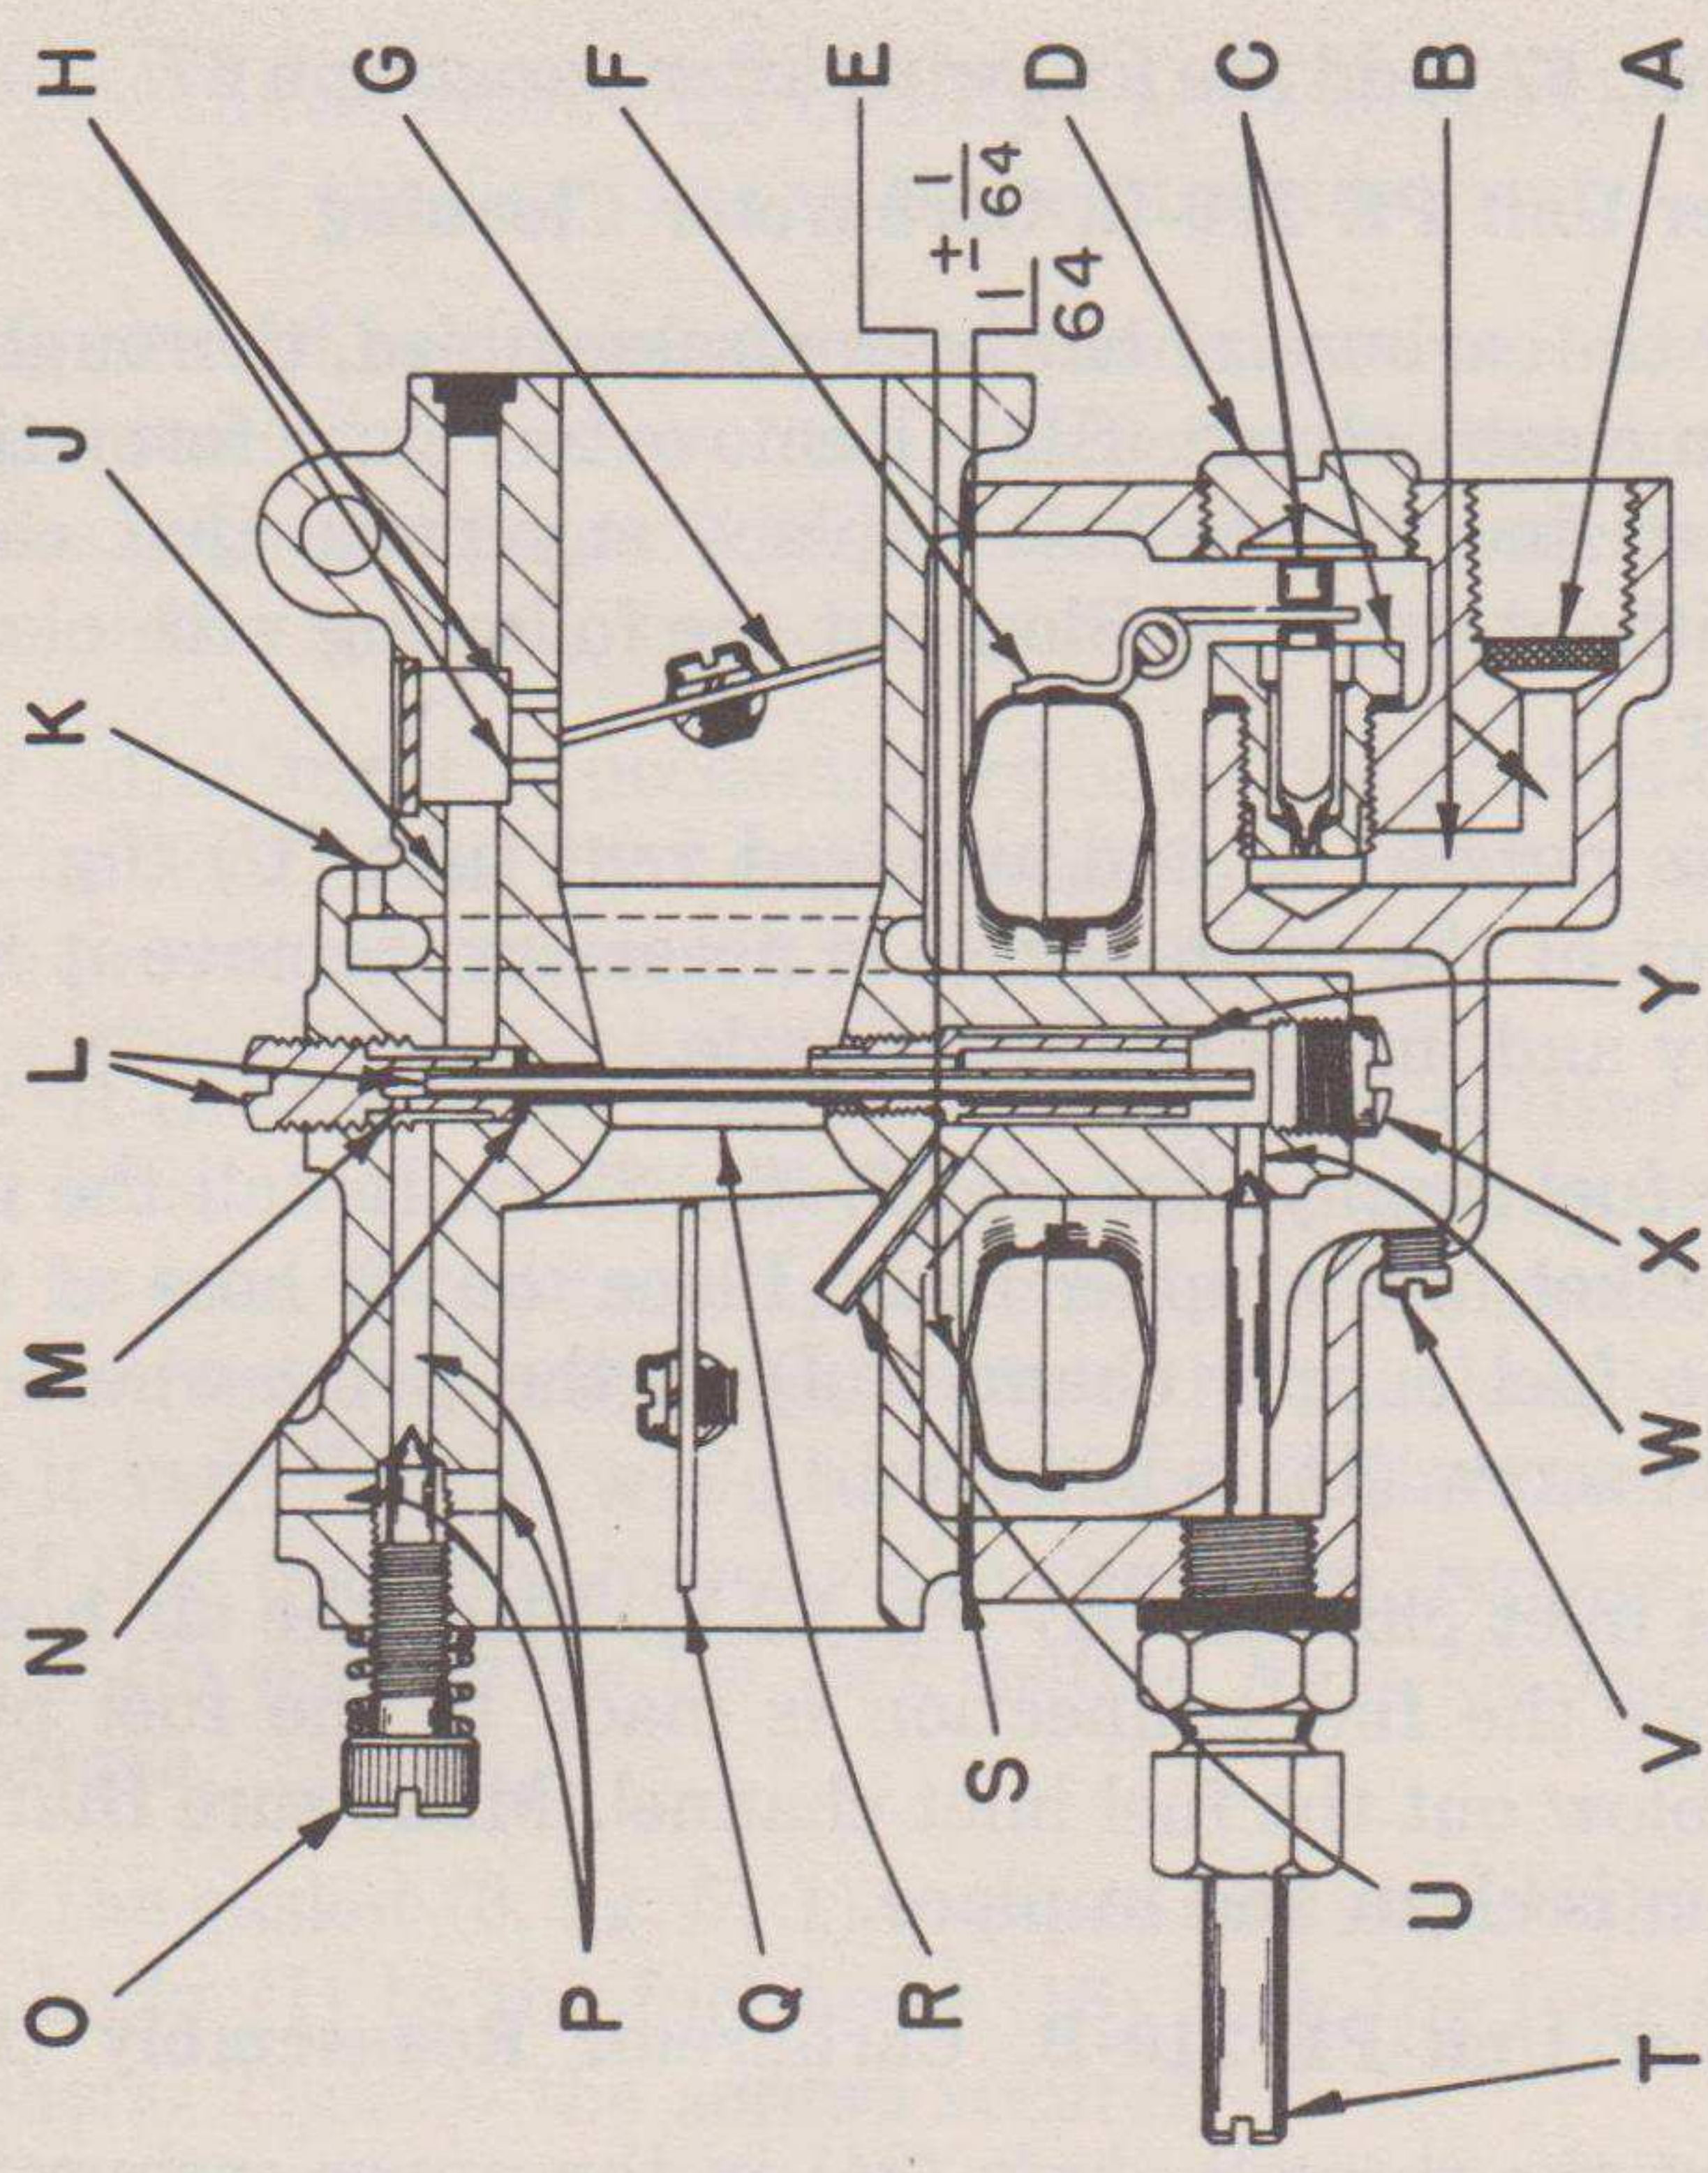

Figure 22.1. Power Unit PE-210-B, carburetor, cross-sectional view.
**54.1 Theory of Carburetor Function (fig. 22.1)**
*a.* A constant fuel level must be maintained in the carburetor float bowl and all channels of the carburetor at all times. This is controlled by the inlet needle and seat assembly (C) and the float (F).
*b.* At low or idle speed, the throttle shutter (G) closes the venturi (R) and causes fuel to enter the engine through the idle discharge ports (H). Fuel flows by the main adjustment screw (T), through channel (W), and into the idle tube (L). High vacuum ahead of the throttle shutter (G) draws this fuel upward and out of the orifice (M). The fuel from the idle tube orifice mixes with air from channel (J) and the resulting air-fuel mixture is drawn into the engine through the idle fuel discharge ports (H). Additional air, passing the slightly open throttle shutter, is mixed with the fuel as it passes toward the engine.
*c.* When the engine is operating at other than idle speed or pulling a load, the throttle shutter (G) is no longer closed. This reduces suction in the carburetor and minimizes the fuel discharge at (H). The opening of the throttle shutter increases, to a high velocity, the flow of air through the venturi (R). This rapidly flowing air draws fuel from the main nozzle (Y). As the engine speed or load is increased, air is bled automatically into the main nozzle through tube (U). This causes a proper proportion of fuel in relation to the main nozzle adjustment.
- i.* Remove the idle adjustment screw (20, fig. 51.1), spring (21, fig. 51.1), and the idle tube and gasket (22 and 23, fig. 51.1). Also remove the main nozzle channel plug screw (X, fig. 22.1) from the upper body.
**Page 53. Fig. 22.** Insert figure 22.1 after figure 22.
a. After the carburetor has been disassembled, thoroughly wash all parts in clean solvent (SD). Remove any gum formation with acetone, benzine, or alcohol. Replace any parts that cannot be cleaned without damage. Blow out the following with clean compressed air:
(1) Main nozzle (Y) and air-bleed vent tube (U) (fig. 22.1). If replacement of the main nozzle is necessary, remove it from the upper body and install the new nozzle.
(2) Idle fuel supply channel (J) (fig. 22.1). Install the idle tube (L) and gasket in the upper body. Place the air hose at the open end of the fuel supply channel (J) at the point where the idle adjustment screw (D) is installed.
(3) Fuel inlet channel (A) (fig. 22.1). Place the air hose at the point where the fuel connection is made to the fuel body and carefully blow out the fuel inlet channel. Make sure that the fuel inlet screen is clean and in place.